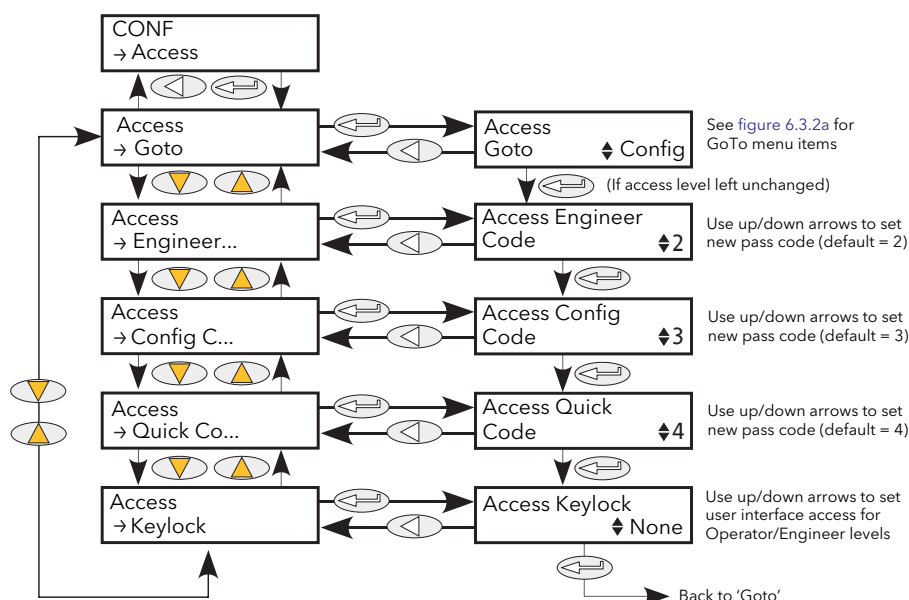

Figure 6.3.2b Access configuration
2. The user to edit the current Pass codes for Engineer, Configuration and Quickstart menus (figure 6.3.2b),
3. Access to the Operator Interface push-buttons to be restricted in Operator and Engineer Level menus (figure 6.3.2b).